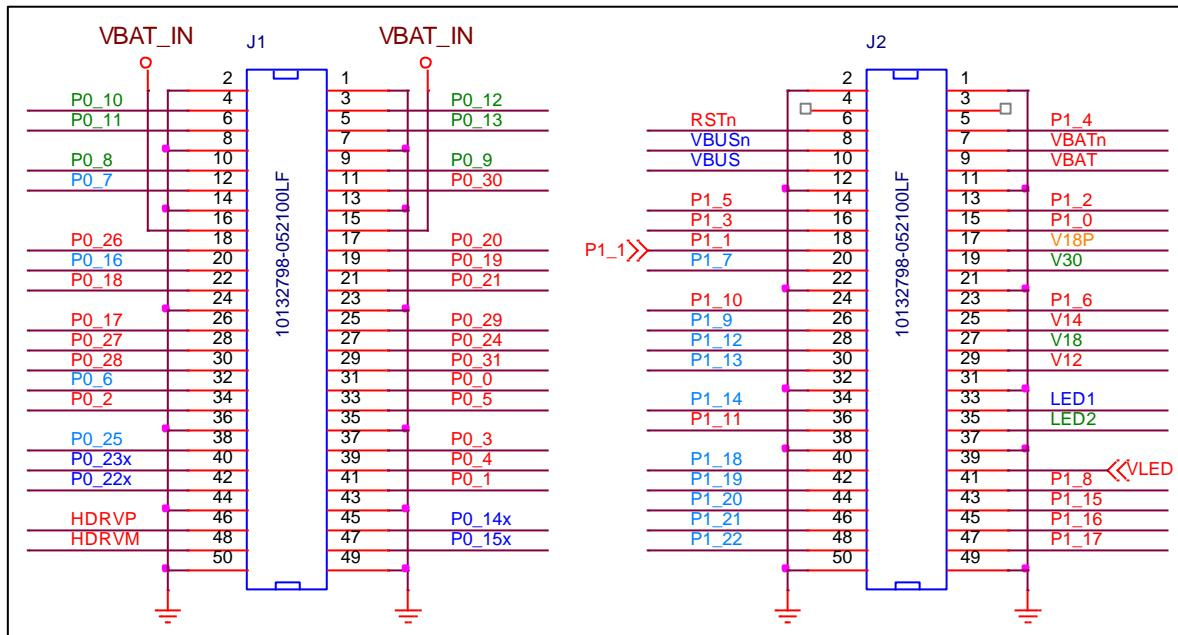

Figure 11: Connection to Mainboard
- Low profile connectors (2×, placed on the bottom of the PCB, Figure 11) matching a set of mating connectors on the main board (J1, J2)